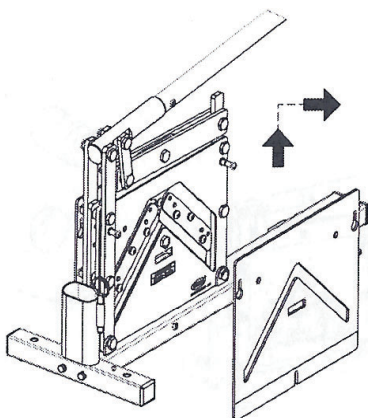

Figure 11
- 1) Place the EBC-110 onto a clean, flat and dry surface and remove the Safety Pin. Loosen the 3 screws without removing them and lift the Safety Guard up and the out. See Figure 11.